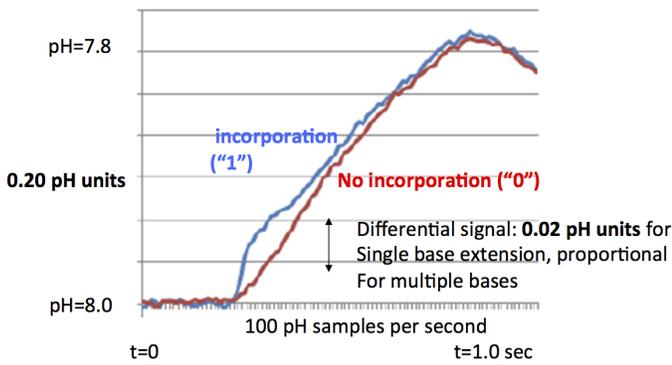

Fig. 2. The actual IT signal with background contribution present [1]. Clearly, the background makes a substantial contribution to the overall signal.
Fig. 1. Characteristic signal pulse sensed by Ion Torrent ISFET sensor with the background signal removed (an important point if you refer to Fig. 2). [2]. The signal pictured seems sampled at roughly 15 Hz.
The problem of pulse identification is just one challenge. As a chemical is flowed across the sensor wells of an Ion-Torrent (IT) chip, it causes changes in pH regardless of an incorporation or not. Thus, it is up to the detection circuitry to erase this background signal. A comparison of the signals, in terms of pH, encountered during incorporation (blue) and no incorporation (red) is shown in Fig. 2.
I don’t know exactly the reason for the signal dynamics pictured in Fig. 2. Clearly, the background contribution is substantial. The rise in the background signal in Fig. 2 (red) is potentially due to the flow of reagent into the well resulting in a rise in charge, which peaks and finally drops off once the majority of ion-releasing reactions have completed. Before a follow-up nucleotide wash can be initiated the system must either wait for the previous background signal to drop to zero, or perhaps use another non-reacting reagent to help accelerate the removal of the background signal. In fact, this is indeed what happens, a **wash cycle is used to clear up remnants of**
The nature of the signal collected by IT sensors (i.e. small bump atop a background signal as shown in Fig. 2) would seem to **preclude a simple detector at the sensor front-end**. This coupled with the variation in signal encountered between each well seems to require the need to send samples of the raw signals for post-processing in the base calling logic. However **if a means of reliable and compact base calling could be devised right at the sensor location** it would seem to potentially have good impact on the behaviour of the system.